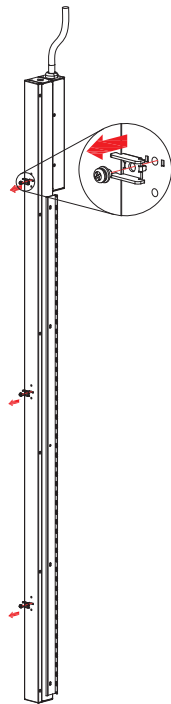

Figure 2
2. Please remove the PDU's toolless mounting pegs. See **Figure 2**.